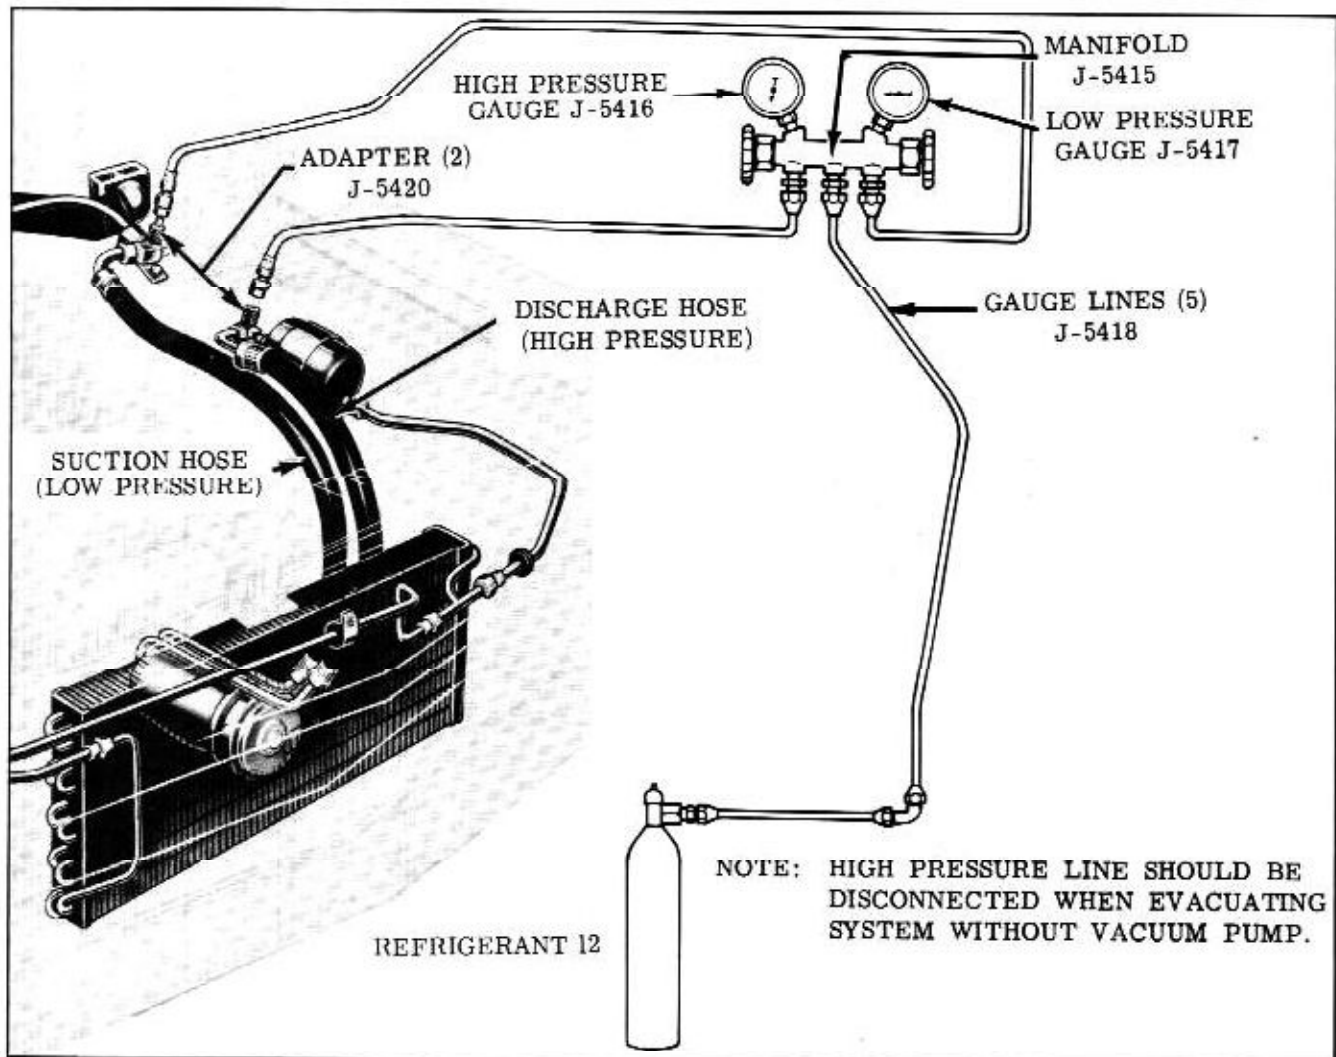

Fig. 14-31 Evacuating System without Vacuum Pump
1. Have gauge set and refrigerant drum connected as shown in Fig. 14-31.